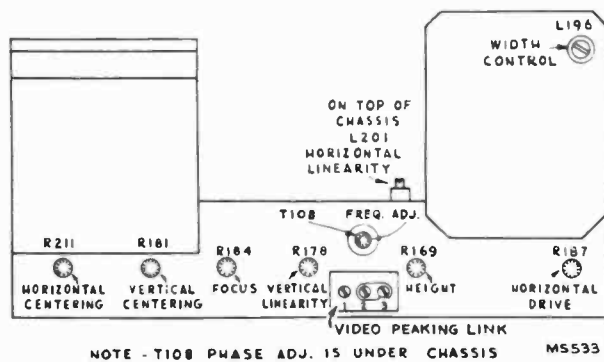

Figure 6—Rear Chassis Adjustments
**FOCUS COIL ADJUSTMENTS**—Turn the centering controls R181 and R211 to mid position. See Figure 6 for location of these rear apron controls.
possible without causing crowding of the right of the picture. This position provides maximum high voltage to the kinescope second anode. Adjust the width control (L196 on rear chassis) until the picture just fills the mask horizontally (8 1/2 inches). Adjust the horizontal linearity control L201 (see Figure 6) until the test pattern is symmetrical left to right. A slight readjustment of the horizontal drive control may be necessary when the linearity control is used. Adjust horizontal centering to align the picture with the mask.
**VIDEO PEAKING LINK**—A video peaking link is provided (see Figure 6) to permit changing the video response. If the pictures from the majority of stations look better with the link closed, (2-3 position) then the link should be placed in that position. However, if transients are produced on high contrast pictures then the link should be left open (1-2 position).